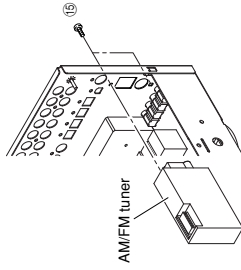

Fig. 6
- a. Remove 2 screws (15). (Fig. 6)
- b. Remove the AM/FM tuner. (Fig. 6)